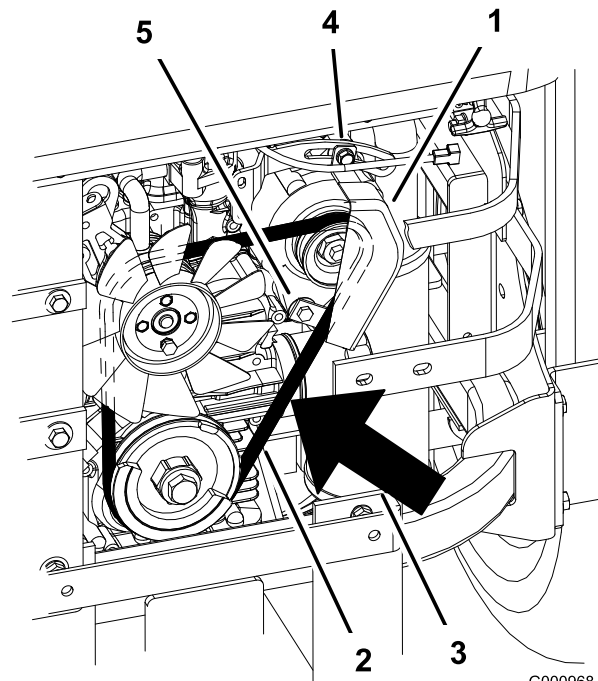

Figure 67
- Loosen the bottom bolt and remove the upper bolt holding the alternator and cover (Figure 67).
- Install a new belt around the pulleys and the alternator (Figure 67).
- Tighten the bottom bolt and install the upper bolt holding the alternator and cover (Figure 67).
- Adjust the alternator to the outside until there is 1/4 to 11/32 inch (7 to 9 mm) deflection in the belt between the engine and the alternator pulleys with 22.1 lbs of force (10 kgf) (Figure 67).
- If the deflection is correct, tighten the bottom and upper bolt (Figure 67).